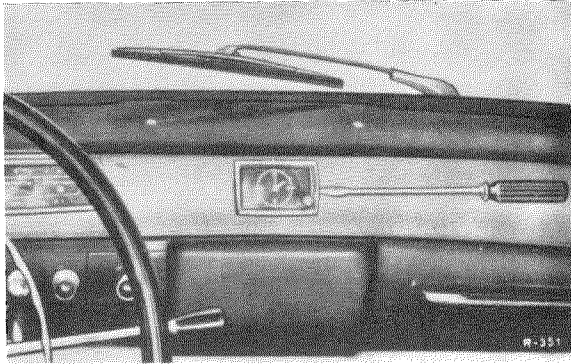

Fig. 54 — 12/1
1. Use a thin screwdriver to push the retaining spring of the clock back on both sides and take the clock out of the sound-absorbing material of the instrument panel (Fig. 54—12/1).